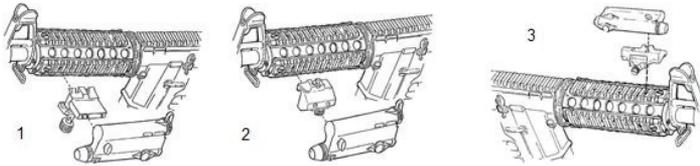

Figure 071-100-0039-3. M16A4/M4 standard rail grabber or insight rail grabber
- (7) Attach the mounting rail to the mounting bracket.
- (8) Hand tighten using a 3-mm allen wrench.
c. Attach a M16A4/M4 standard rail grabber or insight rail grabber (figure 071-100-0039-3).